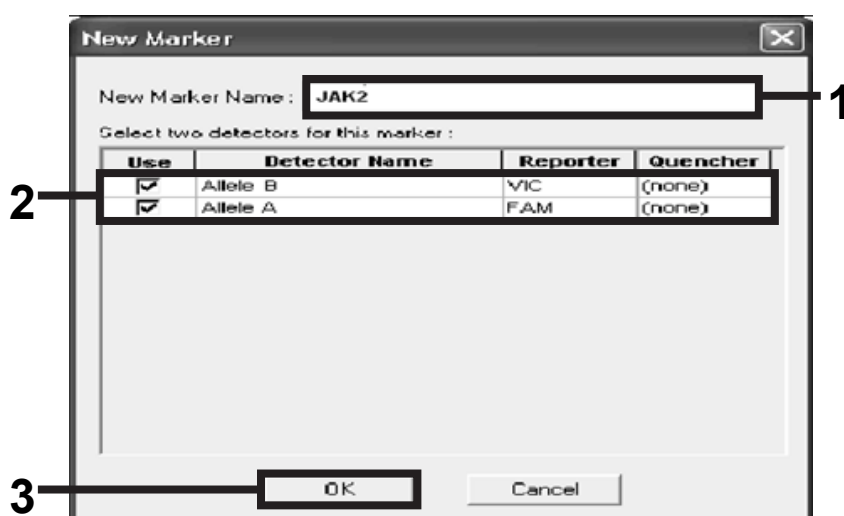

Figure 16. Creating markers.
19. In the “New Marker” dialog box, type *JAK2* in the “New Marker Name” field (Figure 16). Select the “Allele A” and “Allele B” detectors as created in steps 16 and 17 (or already defined), and click “OK” (Figure 16).